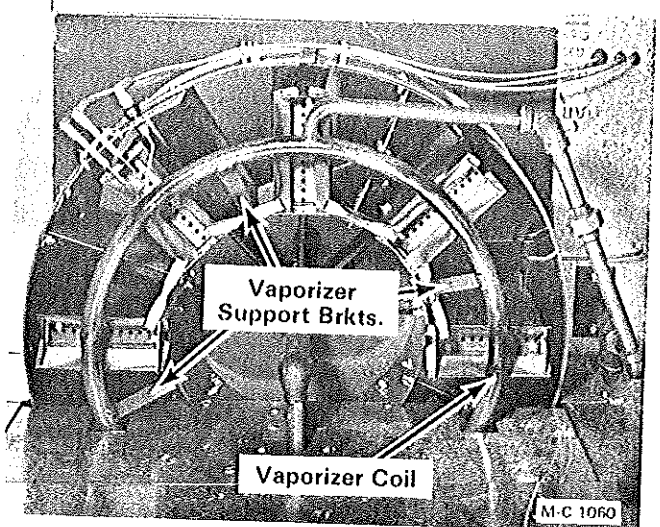

Figure 17
E. Go into the plenum chamber and loosen the four vaporizer coil support brackets (one bracket is below the floor), see Figure 17. Move the coil closer to or away from the burner.